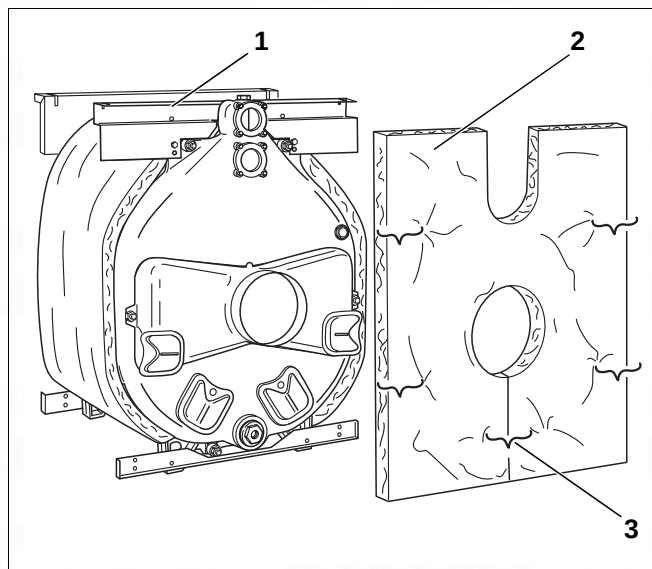

Fig. 33 Installation – rear section thermal insulation
- ▶ Push rear section thermal insulation (Fig. 33, [2]) onto the exhaust outlet. The cut-out for the boiler flow and boiler return must point upwards.
- ▶ Attach the rear section thermal insulation to the top rear connection plate with two tensioning springs (Fig. 33, [1]).
- ▶ Close the slit below the flue outlet with tensioning springs (Fig. 33, [3]).
- Loosen tensioning springs below the flue outlet (also cp. Fig. 33 on page 26).